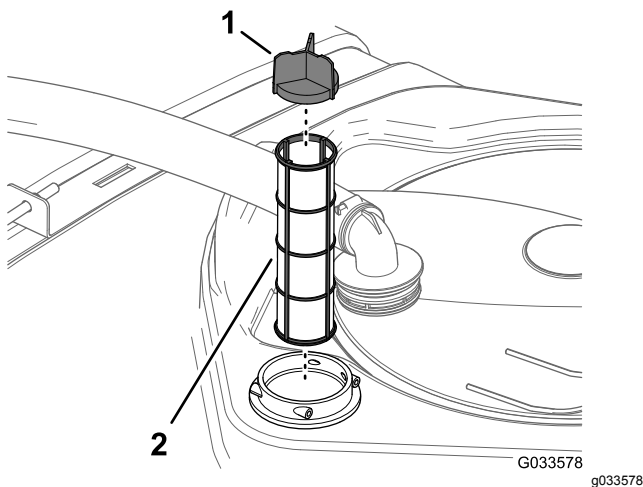

**Figure 53**
2. At the top of the sprayer tank, remove the retainer that secures the hose fitting attached to the large hose from the filter housing (Figure 53).
3. Remove the hose and hose fitting from the filter housing (Figure 53).